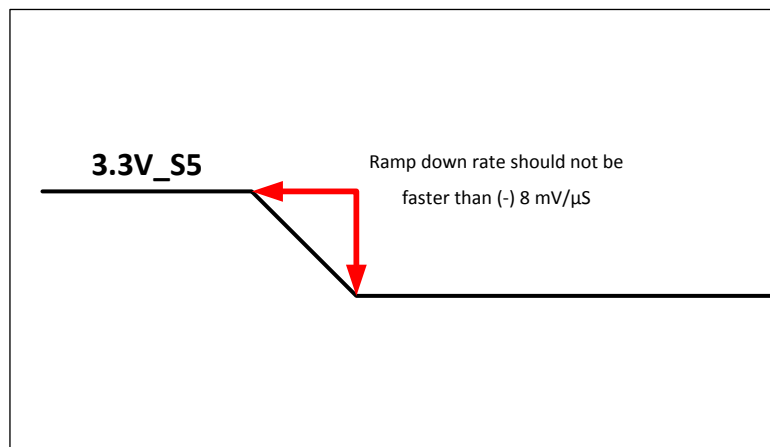

Figure 26. 3.3V_S5 Power-down Sequence Requirement
10. The ramp down rate of the 3.3V_S5 rail should not be faster than (-) 8 mV/μS. See Figure 26 on page 103 .